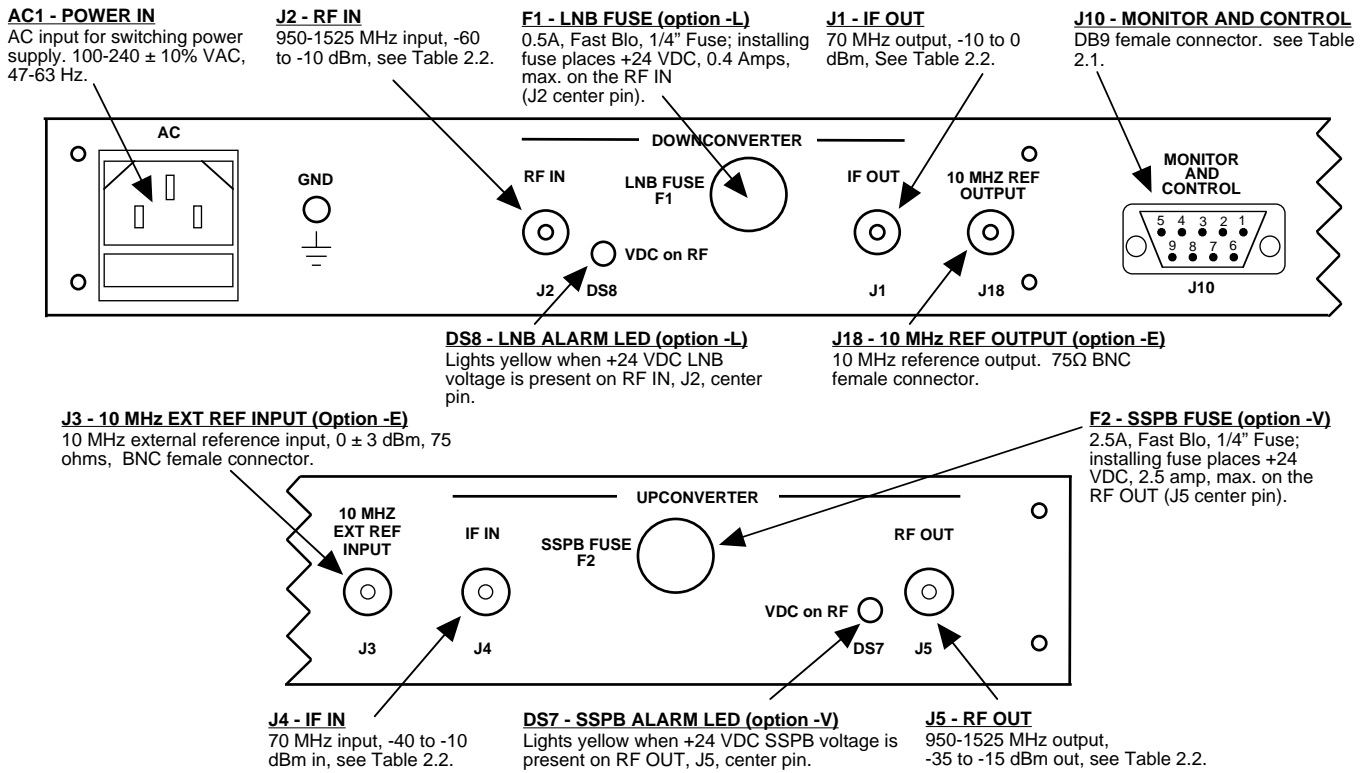

Figure 2.1 Model 2017-03A Rear Panel I/O's
- 1.) Connect a -40 dBm to -10 dBm signal to IF In, J4 (Figure 2.1).
- 1.) Connect a -60 dBm to -10 dBm signal to RF In, J2 (Figure 2.1).